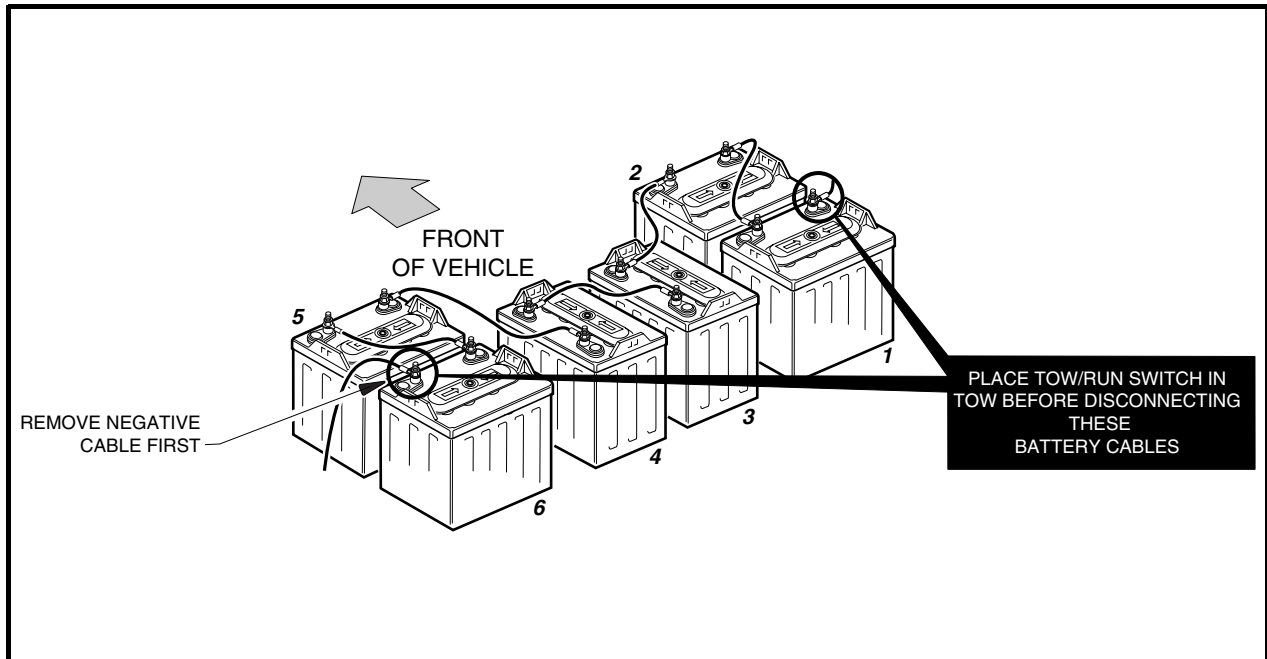

Figure 10-1 Battery Bank for PowerDrive Plus Vehicle
- TO AVOID UNINTENTIONALLY STARTING THE VEHICLE, PLACE THE TOW SWITCH IN THE **TOW** POSITION AND DISCONNECT BATTERIES AS SHOWN IN **FIGURE 10-1, PAGE 10-2**, THEN DISCHARGE THE CONTROLLER AS FOLLOWS: